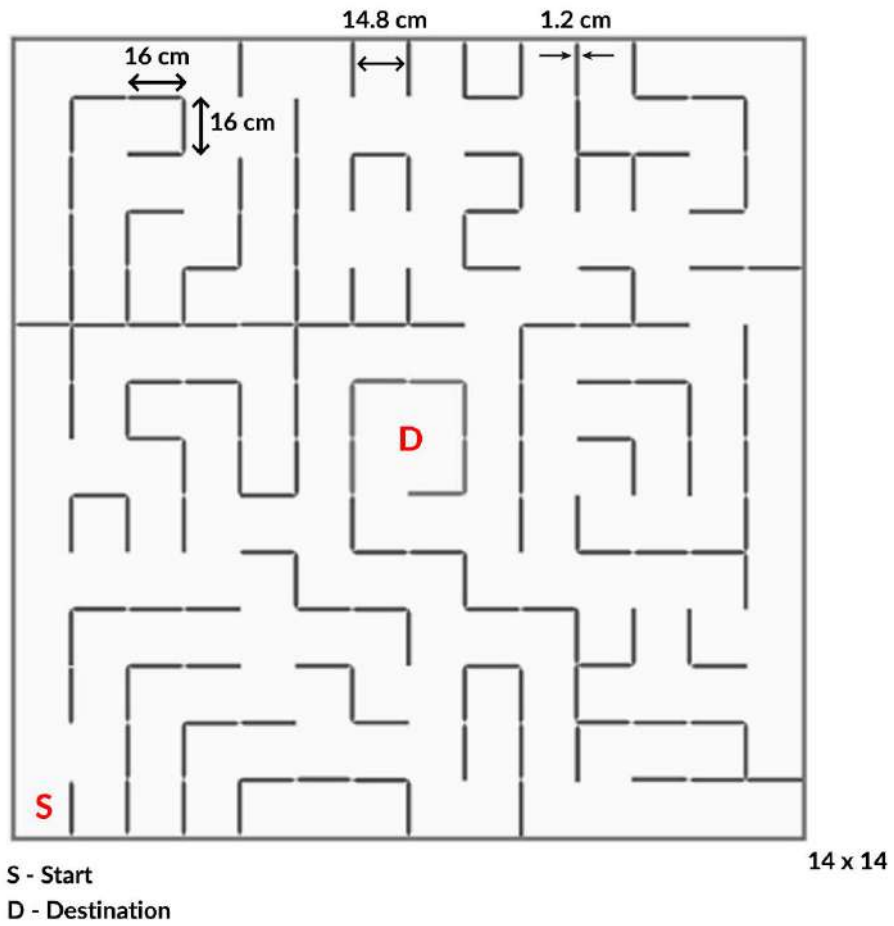

Figure 1: A sample maze
1. The maze shall comprise **14 x 14 multiples** of a **16 cm x 16 cm unit square as shown in Figure 1**. The walls constituting the maze shall be **5 cm high and 1.2 cm thick**. Passageways between the walls shall be **14.8 cm wide**. The outside wall shall enclose the entire maze.
8. You will be given a sample maze (Figure 1) to carry out any test runs or calibrations on the day before the competition.